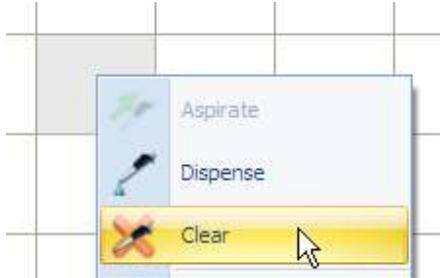

Figure 4.40 Clear Aspirated Data
2. Right-click the selected wells and select **Aspirate** from the pop-up menu that appears (Figure 4.40).
3. To clear the data from the virtual pipette, right-click and select **Clear** from the pop-up menu (Figure 4.40).